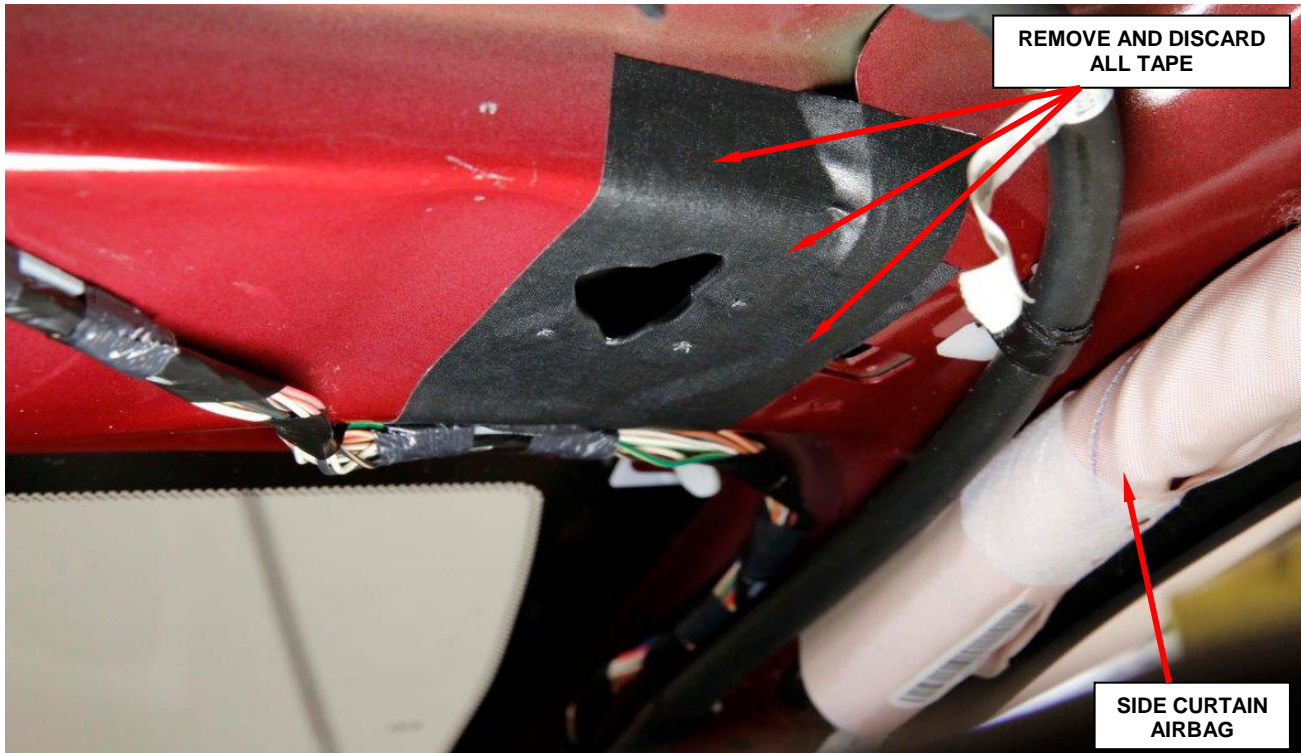

Figure 11 – Remove and Discard the Abrasion Tape and Tape Patches from Left and Right Visor Hole Openings (right side shown)
30. For vehicles that had Safety Recall P36 performed, remove all protective and abrasion tape applied to the right and left visor hole openings (Figure 11).